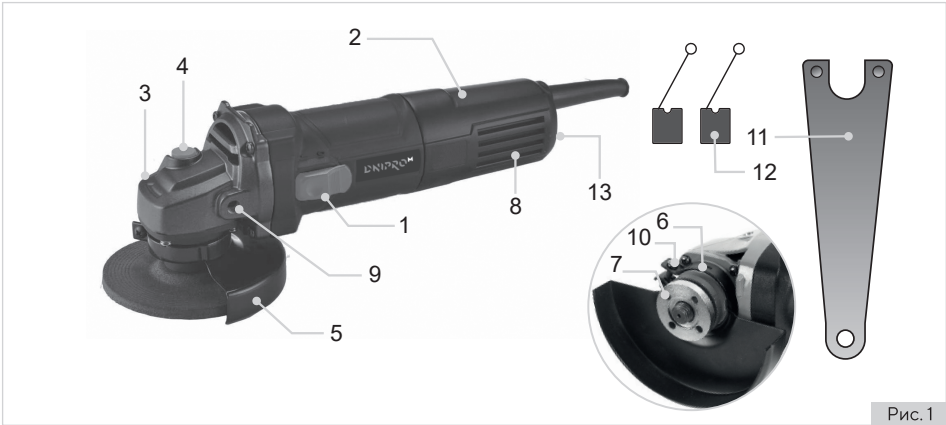

Рис. 1
Install the additional handle (12) (fig. 1) in a proper position and lock it turning the knob clockwise. Be sure to use the handle for better control of the machine during works.